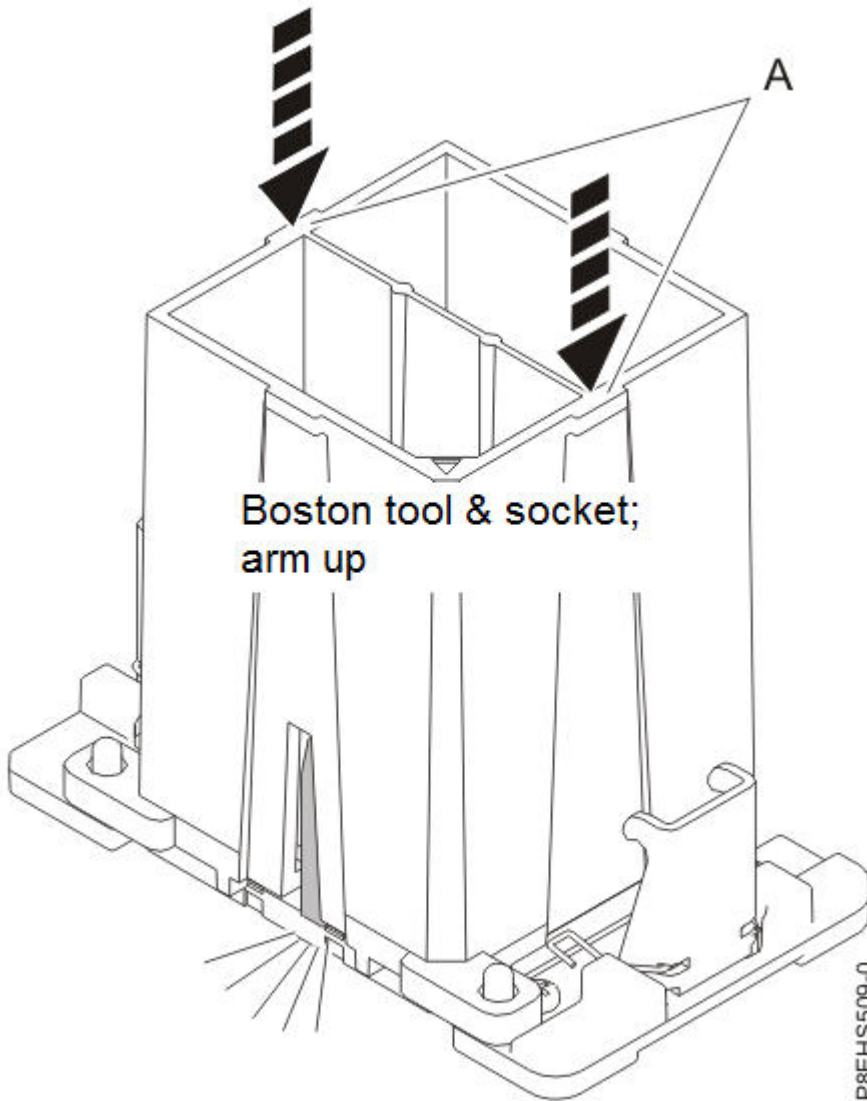

Figure 53. Locking the system processor module into the tool
8. With the removal tool (A) sitting on top of the system processor module, push down on the tool to lock the system processor module into the tool as shown in Figure 53.